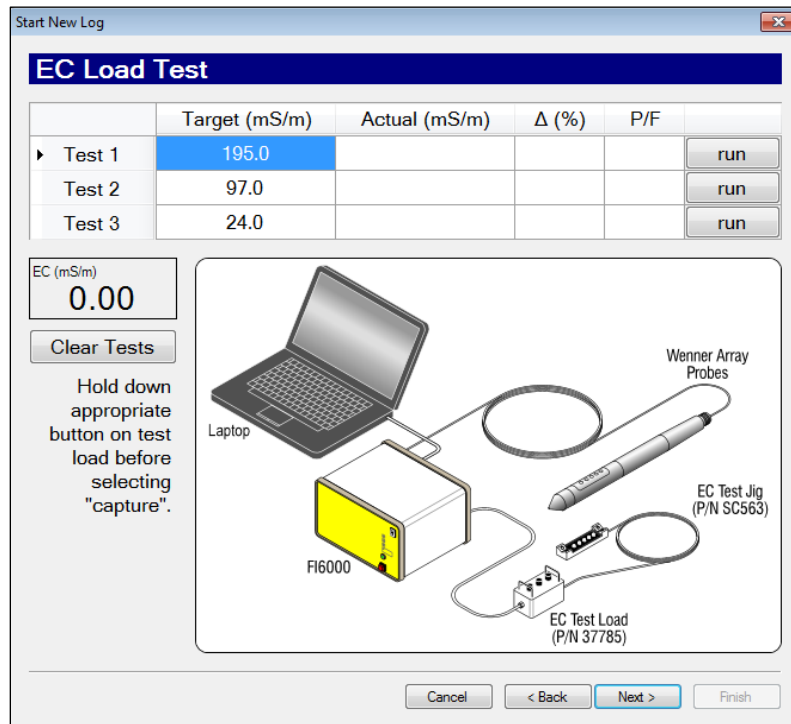

Figure 5.4: EC Load Test Screen
4. Place the EC Test Jig (214237) so that the four springs on the test jig touch the four dipoles of the Wenner EC array (Fig. 5.4). Make sure the trunkline and test jig wires go in the same direction. The other spring on the test jig will ground the probe body above the Wenner array. Make sure the springs are pulled out far enough to make a solid contact on the dipoles.
5. When you get to the EC Load Test Screen and the EC test load and test jig are in place on the probe press down on the test 1 button on the test load and select "run" of Test 1 (Fig. 5.4). After 5 seconds the actual value will acquire and will pass if within 10% of the target value. Continue on with Test 2 and 3.